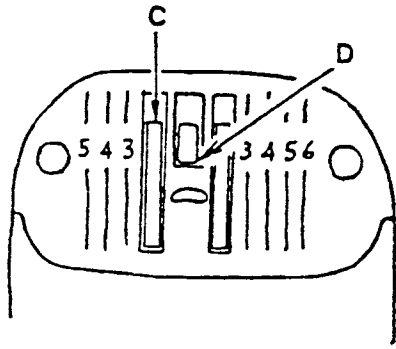

Fig. 25-1
1. Turn handwheel toward front of machine until center bar (D) (Fig. 25-1) of feed dog is in its most forward position in center slot of throat plate.